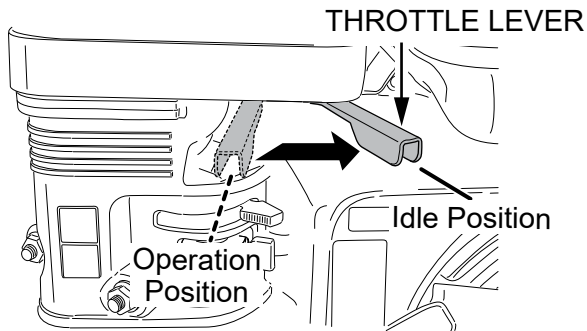

Figure 23. Throttle Lever (IDLE)
1. Move the throttle lever to the idle position. Cool down the engine for 3 to 5 minutes at idle speed before stopping (Figure 23).